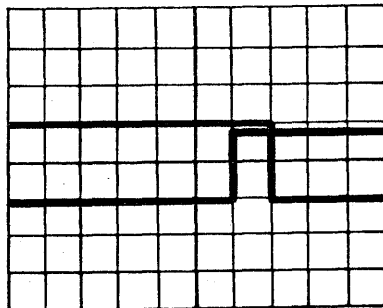

Figure 4-9. Track Zero Switch Test Waveform
- f. Observe the waveform on channel 2. Figure 4-9 shows alternate sweeps of the signal. The track zero switch and stop settings are acceptable if the high-to-low and low-to-high transitions occur within two major divisions (4 ms) of each other on alternate sweeps. If so, skip step g and proceed directly to step h; if not, proceed with step g.